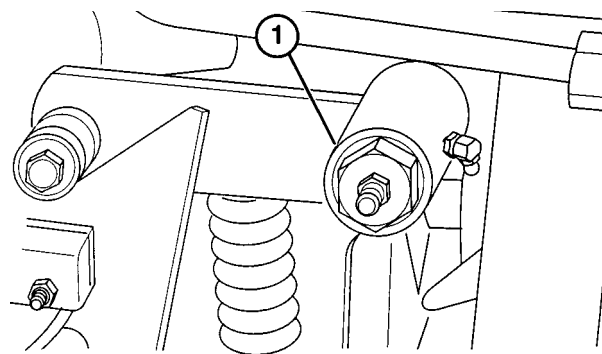

Figure 24
2. Remove the (3) screws securing the side panel to the right side of the machine and remove the panel.
5. Start the engine and rotate the cam in both directions to determine the mid position of the neutral span (Fig. 24).